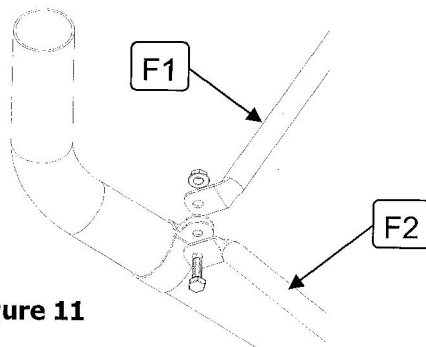

Figure 11
Step 3: Position the Tube Collar around the Mount Tube below the vertical bend. Before attaching the stays to the collar, note that there is an indicator at the end of each stay (F1, F2). The end of the stay with the indicator is the end that fixes to the wall/floor depending on the configuration. Place a Stay on each side of the Tube Collar flanges and align the holes. Pass a 5/16" x 1" UNC Hex Head Tap Bolt through the hole on the Stay on the right, both Tube Collar flange holes, and the hole in the Stay on the left. Secure with a 5/16" UNC Serrated Flange Nut as in **(fig 11)**.